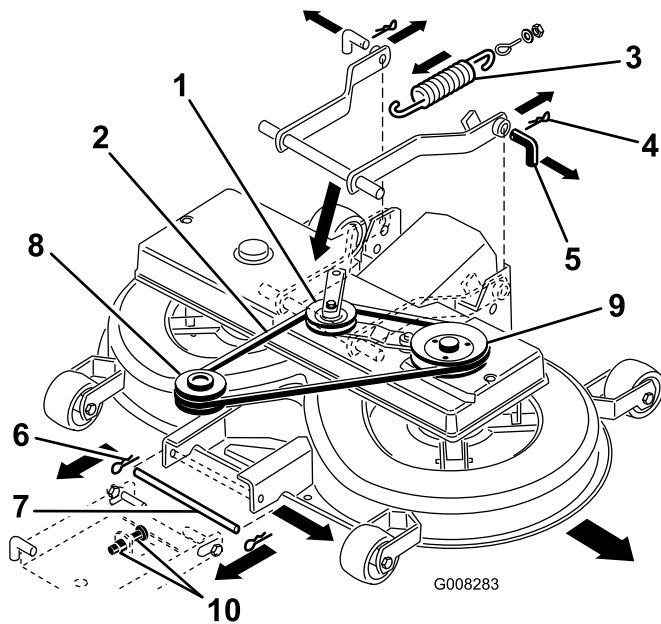

Figure 43
2. Remove the V-belt pulley and the idler arm assembly (Figure 43).
8. Pull the idler arm assembly in and remove the V-belt from the pulley (Figure 43).
9. Disconnect the spring from the engagement lever (Figure 43).
11. Remove the hairpin clips from the 2 rear pins and remove the pins (Figure 43).
12. Remove the hairpin clip from the front pin and remove the pin (Figure 43).
13. Remove the V-belt from the engine pulley (Figure 43).
7. Move the lower pin of the front adjustment suspension into the bottom position of the slotted holes by adjusting the 2 nuts (M12) on the front suspension (Figure 43).